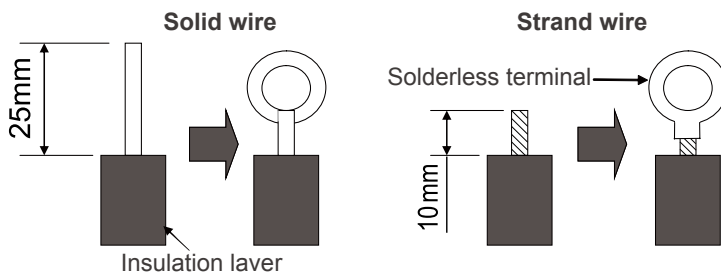

Fig.12
### (1). For solid core wiring (Fig.12)
### (2). For strand wiring (Fig.12)